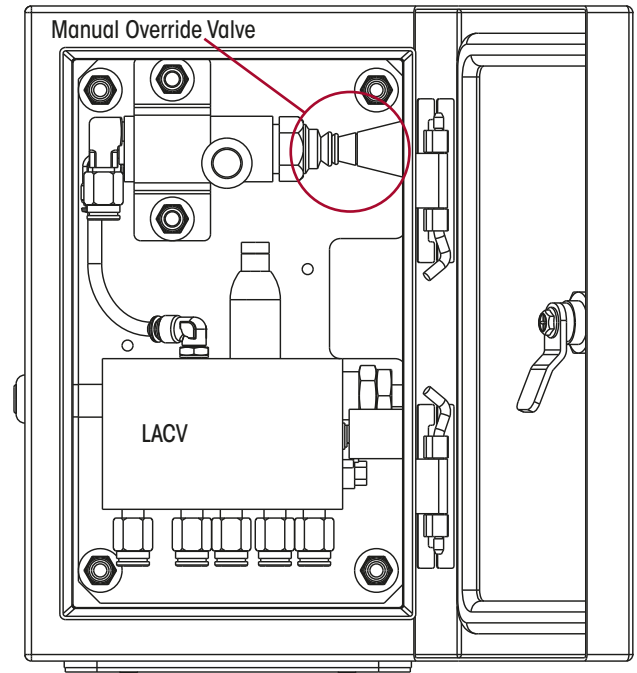

Figure 2: Auto/Auto Lift Axle Control Valve
- Auto/Auto:** These systems will raise and lower the axle automatically depending on load. These systems have a manual override valve, which is separate from the LACV. Refer Figure 2.